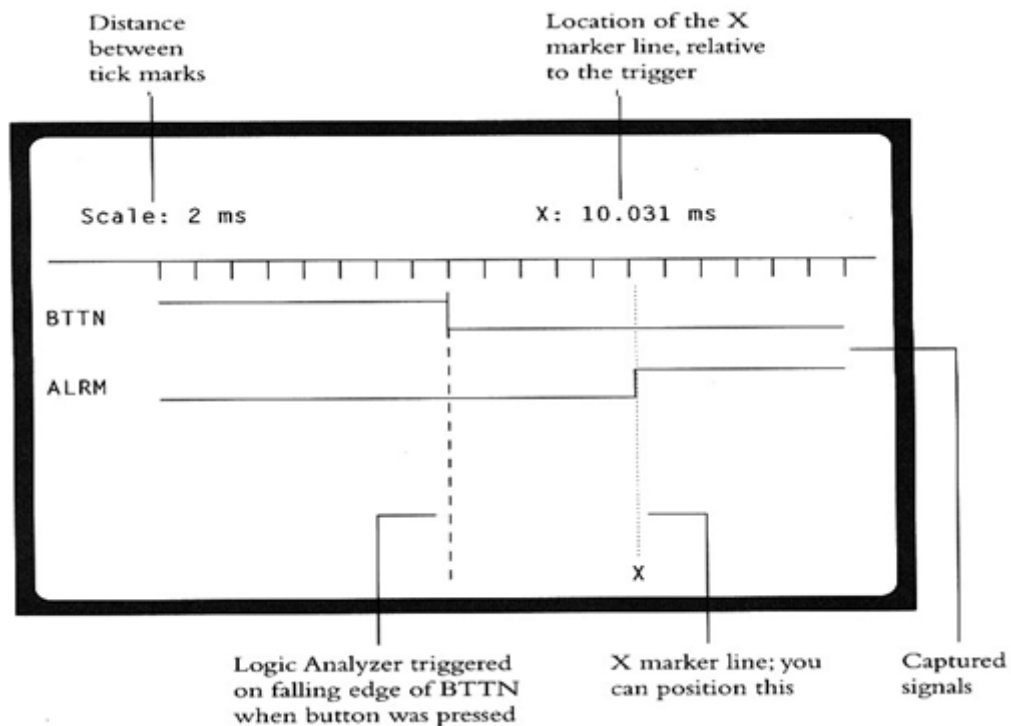

Fig5 : Logic analyzer timing display: Button and Alarm signal
- We can see software puts out appropriate signal patterns to control the hardware. The underground tank monitoring system to find out how long it will take the software to turn off the bell when you push a button shown in fig5.